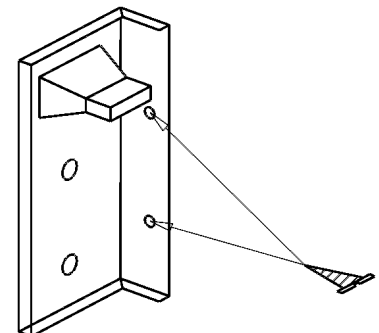
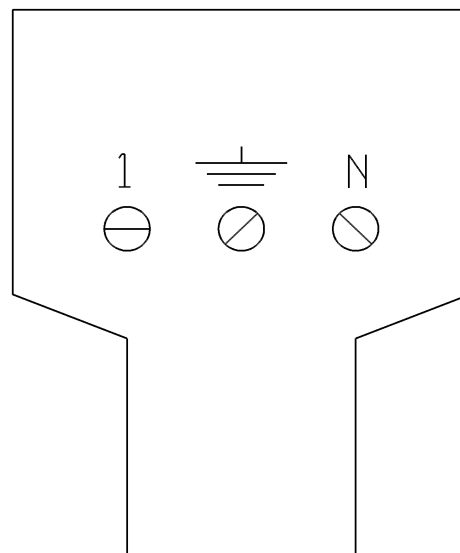

Fig. 3
Fig. 9
- Fasten the power supply unit (fig.3) to the back of the appliance in the top left-hand corner using two wood screws as shown in fig.2.
- Connect the power cable supplied to the connector on the back of the appliance, plug the connector into the power supply unit on the back of the post (fig.3) where you will find the terminal board (fig.9) set to operate at a supply voltage of 230V monophasic.